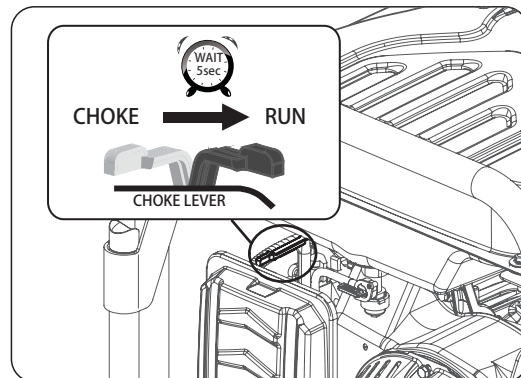

Fig 12
- Let engine run for several seconds and then gradually, as engine warms up, slide the choke lever towards the “RUN” position until the choke is fully slid to the “RUN” position. (See fig 12)